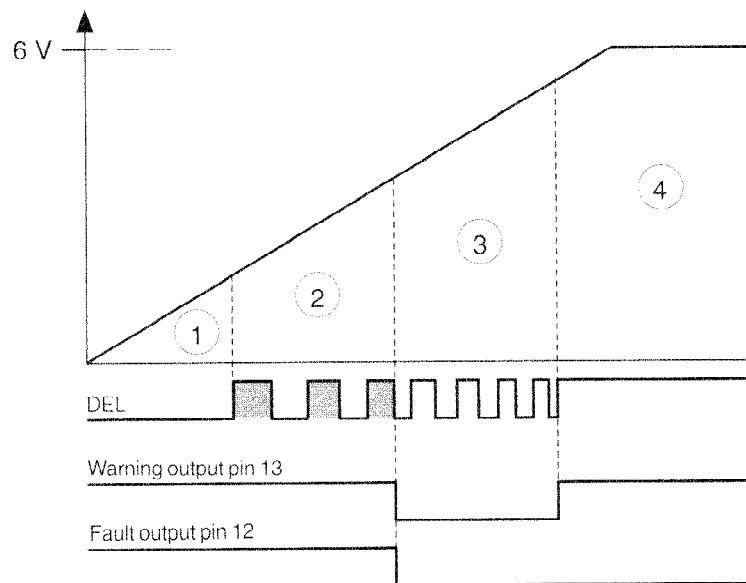

Fig. 41 Alignment of the DDLS
- Connect the voltmeter to the DDLS 2 (pin 24 and pin 10) and measure the analogue voltage. Continue to adjust the DDLS 1 until the analogue voltage amounts to around 5.8 - 6 V (observe Fig. 41).